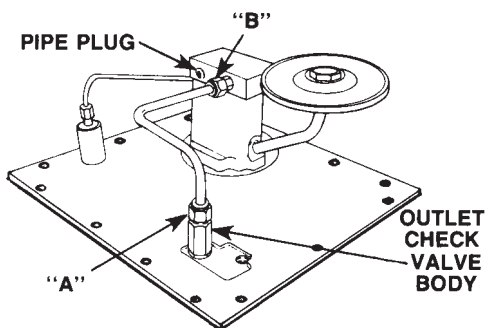

FIGURE 5
3. Disconnect fittings "A" and "B" and remove the tube assembly. See Figure 5.